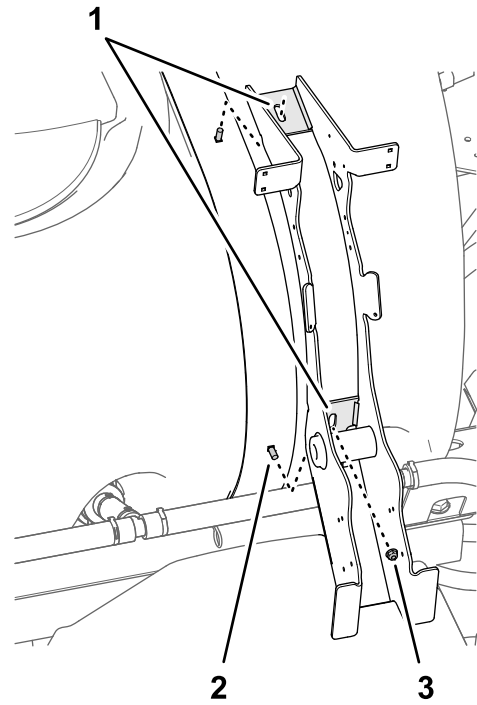

Figure 13
2. Align the slots in the eductor mount to the 2 lower carriage bolts of the rear tank strap as shown in Figure 13.
3. Loosely assemble the flange locknut (5/16 inch) onto the lower carriage bolt (Figure 13).